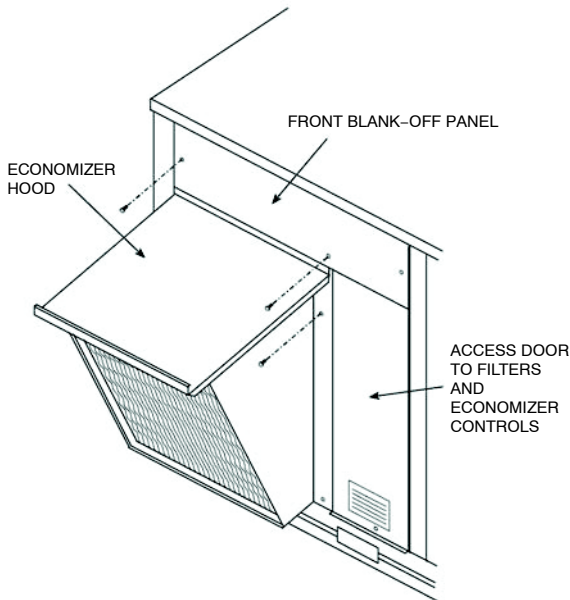
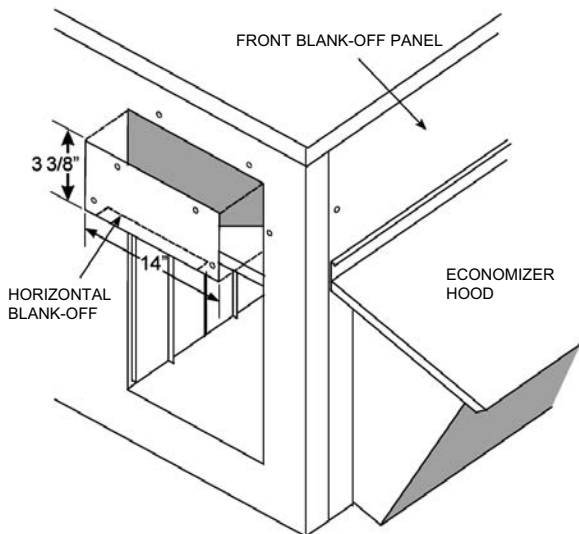

Fig. 12- Front Blank-Off Panel Installation Panel (6,10 & 12-1/2 Ton Units)
Fig. 13- Horizontal Return Opening Blank-Off Panel (10 and 12-1/2 Ton Units)
19. Panels for tall units. On 6, 10, 12 ½ Ton units, install front blank off above hood. Screw in place. See Fig. 12. On 12 ½ Ton units, install the horizontal blank-off at the Top of the return air opening. See Fig. 13. Screw in Place through pre-punched holes.